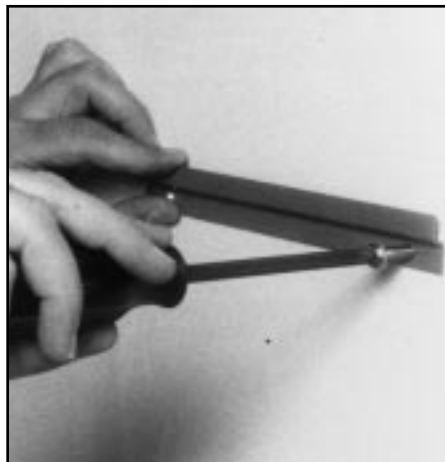

Figure 6
7. Insert the screw anchors if needed and then screw in the mounting screws through the bracket. The top edge of the bracket should stand out away from the wall. (See Figure 6 above)